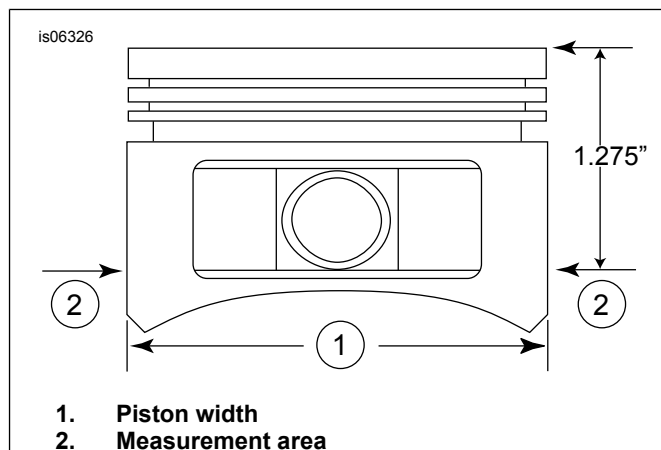

Figure 2. Piston Measurements
- See Figure 2. Measure piston width (1), 90 degrees horizontally from both sides of the piston pin hole and 32.38 mm (1.275 in) down from the deck (top) surface of the piston (2). See Table 11 for piston-to-cylinder fit at this location.